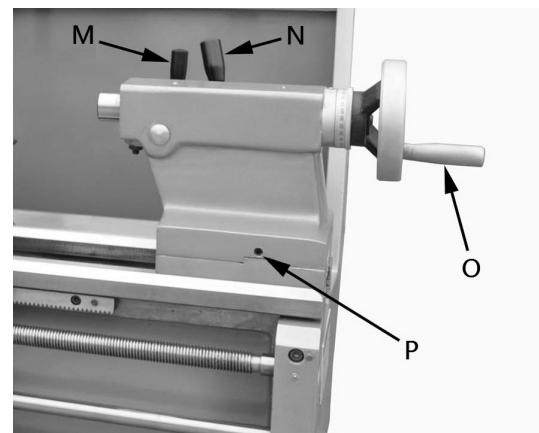

Figure 9-4
18. **Compound Slide Lock** (J, Figure 9-4) – Turn set screw clockwise to tighten and counterclockwise to loosen.
19. **Cross Slide Lock** (K, Figure 9-4) – Turn set screw clockwise, and tighten to lock. Turn counterclockwise and loosen to unlock.
21. **Tailstock Quill Clamping Lever** (M, Figure 9-4) – Lift up to lock spindle. Push down to unlock.
22. **Tailstock Clamping Lever** (N, Figure 9-4) – Lift up lever to lock. Push down lever to unlock.
23. **Tailstock Quill Traverse Handwheel** (O, Figure 9-4) – Rotate clockwise to advance quill. Rotate counterclockwise to retract quill.
24. **Tailstock Off-Set Adjustment** – Three set screws located on tailstock base are used to off-set tailstock for cutting tapers. Loosen lock screw on tailstock end. Loosen one side set screw (P, Figure 9-4) while tightening the other until the amount of off-set is indicated on scale. Tighten lock screw.